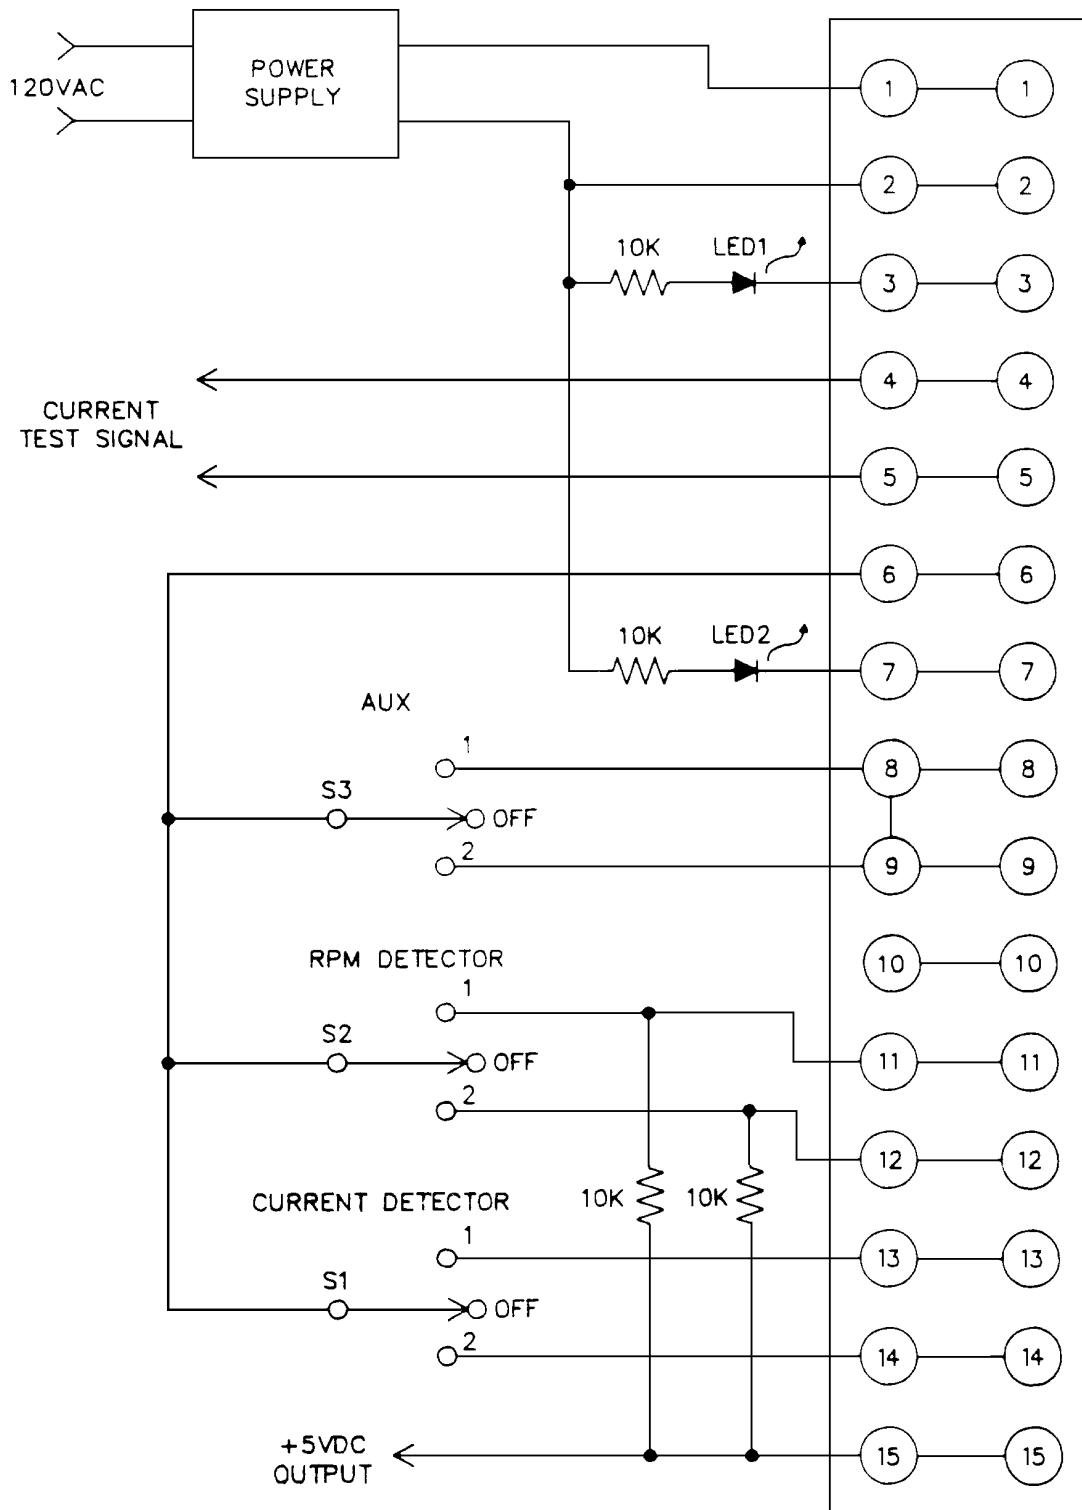

Figure 5-11. Power Supply PCB Test Connection
- b. Connect Power Supply PCB to test components as shown in figure 5-11 and perform the following steps:
- (1) Apply 18 ± 0.5 VDC to board with positive on pin 2 and common on pin 1.
- (2) Check for $+5.0 \pm 0.05$ VDC from pin 15 of board to common on pin 6.
- (3) Verify U1-6 reads $+9.0 \pm 0.25$ VDC.